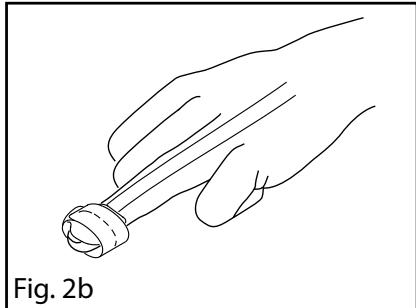

Fig. 2b
3. Refer to **Fig. 2b**. Wrap the adhesive sensor around the finger and ensure that the emitter window aligns on the top of the finger directly opposite of the detector. Check the sensor to verify correct positioning and reposition if necessary. Continue to wrap the rest of the sensor around the finger. Complete coverage of the detector window is needed to ensure accurate data.